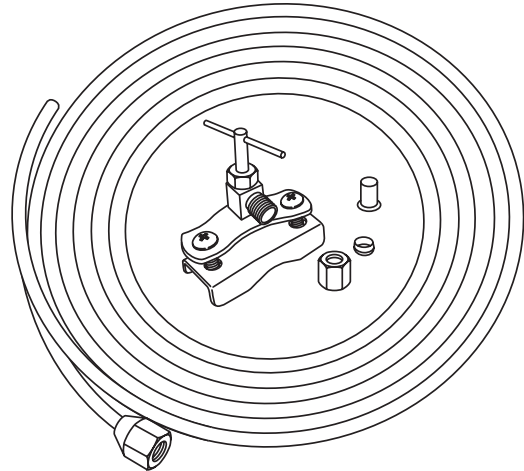

Figure 22
Water Connection - Figure 22
- Use a 1/4" OD copper line to connect the water supply to the solenoid valve. ***This is not supplied with the appliance (Figure 22).***